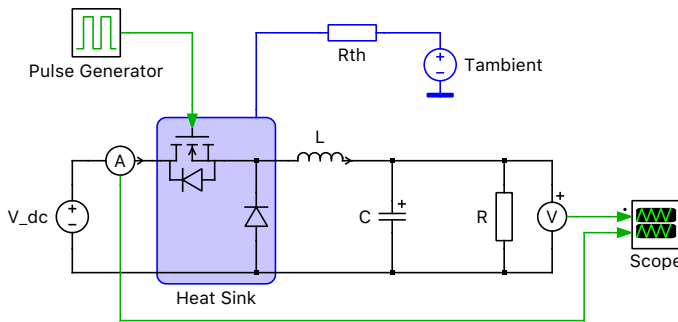

Figure 1: Combined electrical-thermal simulation of a buck converter
The circuit you will use for this exercise is shown in Fig 1. It is a buck converter with a SiC MOSFET switch that operates at 20 kHz. The electrical parameters are given in Table 1.
Your Task: Open the PLECS model `thermal_domain_start.plecs` and add a Heat Sink, Thermal Resistor and Constant Temperature (Grounded) block to the circuit, as shown in Fig. 1. These components can be found in the Thermal section of the PLECS component library. The parameters for these components are as follows:
- 3 Use the **Edit...** option to open the Thermal Editor and look at the switching and conduction loss definitions. Note that there is component switching loss data already included using an **Energy scale** of μJ , as well as conduction loss data for 150°C . You will add datapoints for -55°C and 25°C , using **Figures 1** and **2** in the device datasheet, respectively. For the -55°C data, you will manually enter voltage values for the existing current columns, and then you will use the Curve Import Wizard tool to graphically acquire datapoints for the 25°C table.
- 5 Using **Figure 1** of the C3M0120090D device's datasheet, estimate voltage values for the positive current columns headers already chosen (i.e., 5 A, 15 A, 25 A, 35 A, and 45 A). It is recommended by the manufacturer to refer to the “ $V_{\text{GS}} = 15$ ” curve unless you are not driving the gate with full voltage (note that the data at 150°C uses the “ $V_{\text{GS}} = 15$ ” curve).